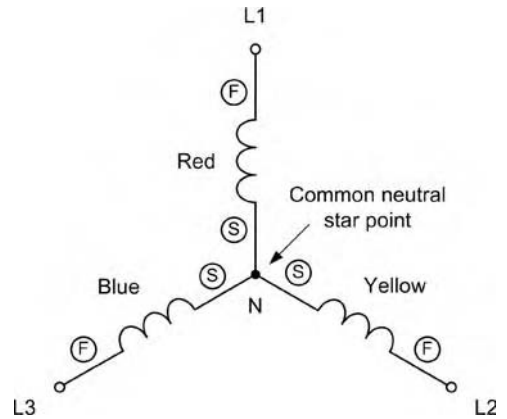

Figure 5.193 Star connection.
- star (as shown in Figure 5.193);